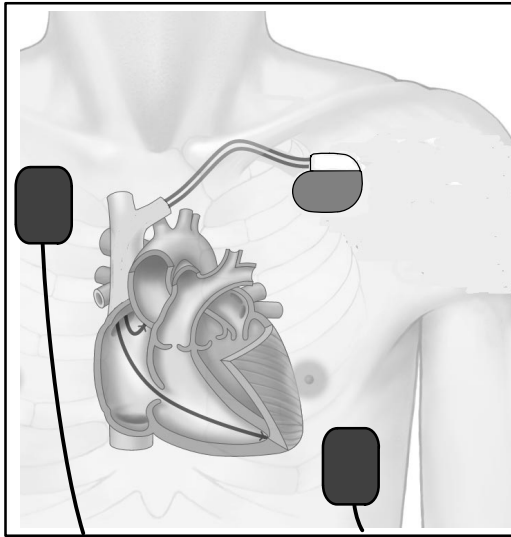

Figure 3-3. Recommended position of external defibrillation paddles.
1. Position defibrillation paddles as far from the pacemaker as possible. Positioning the defibrillation paddles perpendicular to the implanted pacemaker/lead system can minimize current flow through the pacemaker and leads (Figure 3-3).